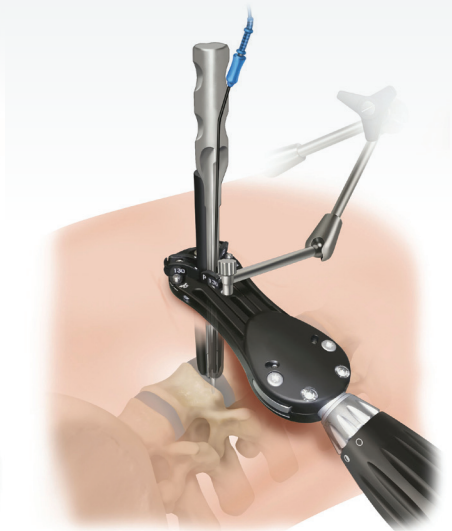

Figure 24c
- Insert the shim impactor into the posterior blade. While confirming with A/P fluoroscopy, advance the intradiscal shim into the disc space until it bottoms out in the blade channel (**Figure 24c**).